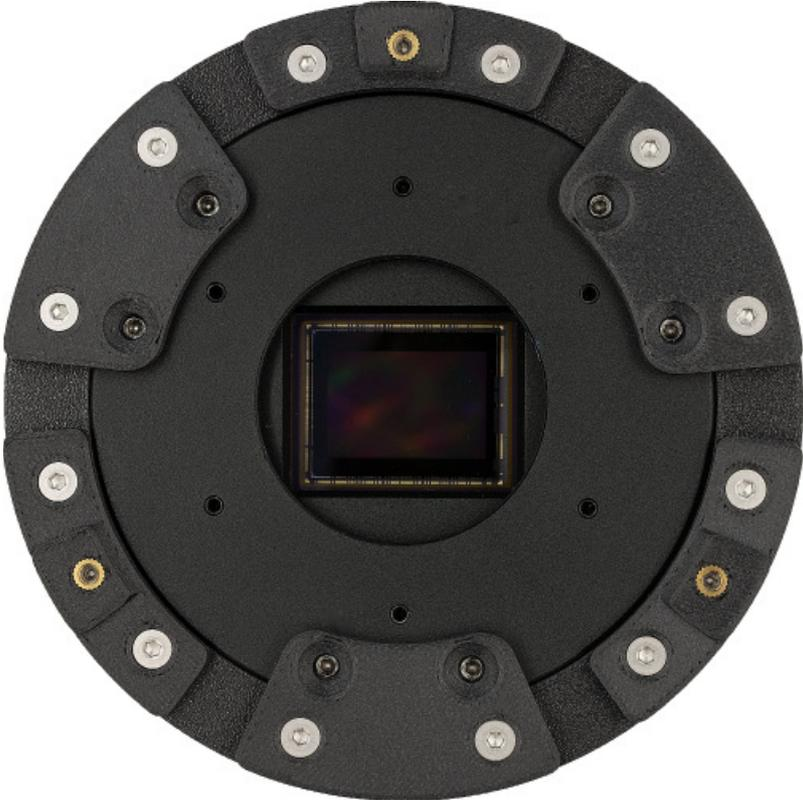

fig. 34
10. Remove the second M4x8 screw from the third tab and screw the sixth headless screw in its place. After this step, the set should look as in fig. 34.